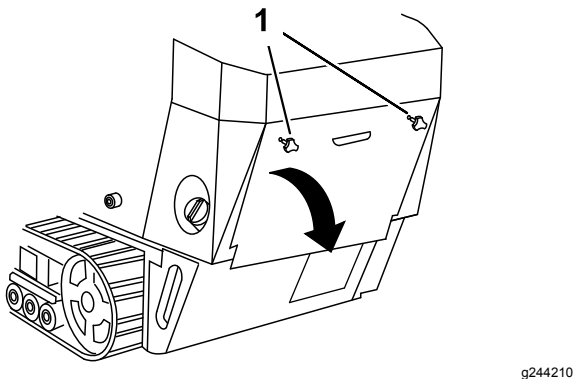

Figure 26
1. Unscrew the 2 hand knobs securing the rear-access cover to the machine (Figure 26).
2. Tilt the rear-access cover down and remove to access the internal components (Figure 26).